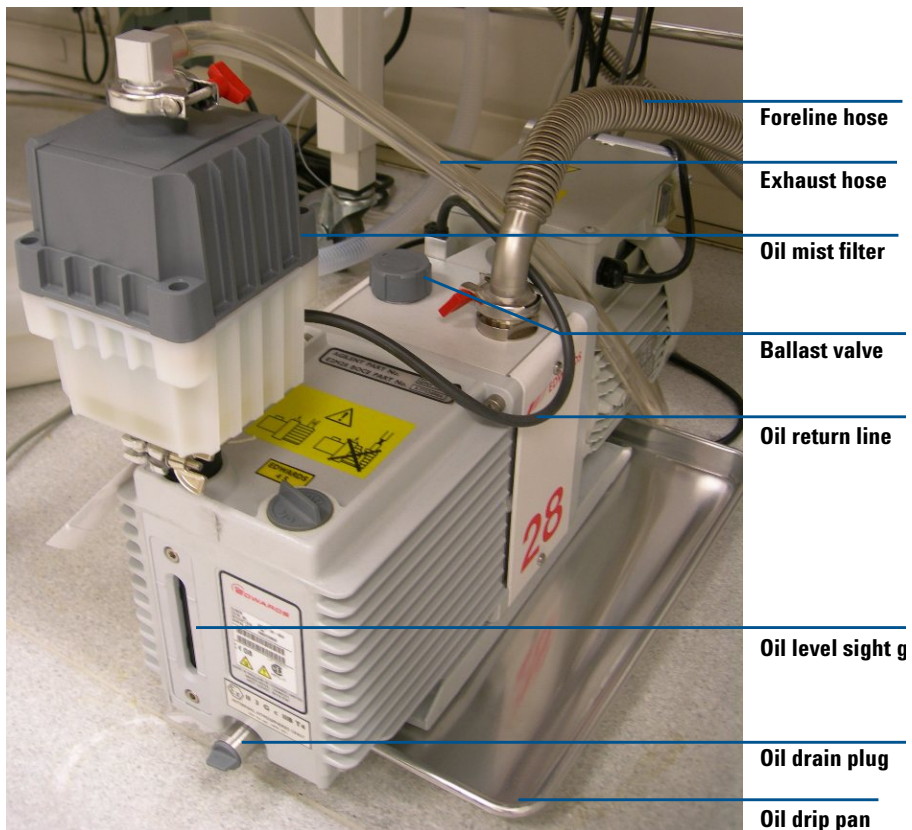

Figure 65 Rough pump (Edwards E1M18).
- 3 Remove the fill cap on the rough pump (see Figure 65).
- 4 Add new pump fluid until the fluid level is near, but not over the maximum mark beside the fluid level window (see Figure 65).
- 3 Place a container under the drain plug of the rough pump (see Figure 65 on page 100).
- 4 Remove first the fill cap (see Figure 65 on page 100), then open the drain plug.
- 6 Pour in new pump fluid until the fluid level is near, but not above the maximum mark beside the fluid level window (see Figure 65 on page 100).